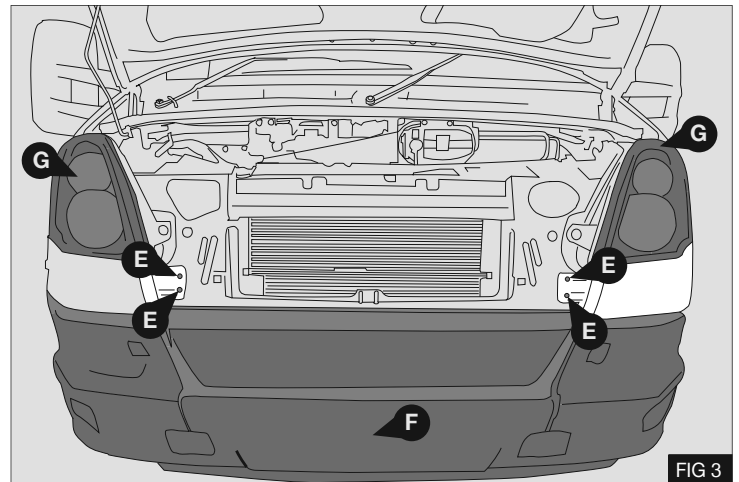

FIG 3
7. Remove screws (E) securing trim below headlights - Fig 3
8. Remove front bumper (F) - Fig 3
9. Remove headlights (G) - Fig 3